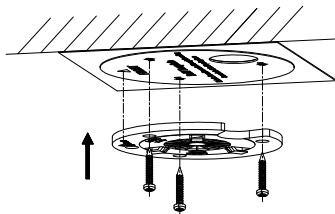
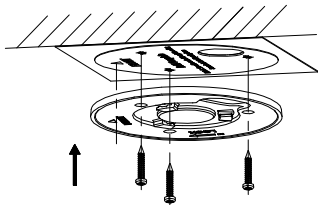

Figure 2-39 For DE2xxx Series PTZ Camera
Figure 2-40 For DE2xxxI Series (IR) PTZ Camera
4. Attach the base plate to the ceiling and secure it with the supplied three self-tapping screws by aligning with three screw holes in the ceiling, and the front arrows on the drill template and base plate should be aligned together as well, as shown in Figure 2-39 and Figure 2-40.